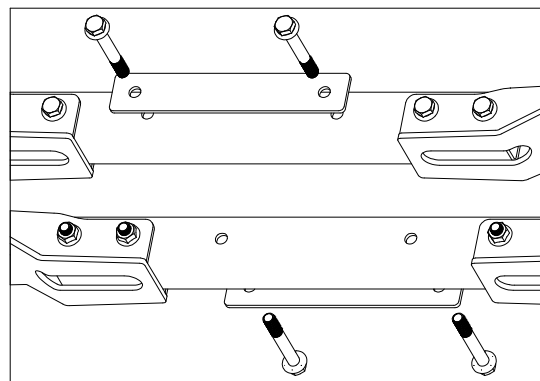

Figure D1: View of cross members.
1. **Prepare center mounting hardware.** Locate four 5/8" x 4-1/2" flange bolts and the two washer plates. Pass two bolts into each washer plate. Pass the bolts into the cross members so that the bolt threads are sticking out into the area where the center will install, see Figure D1.